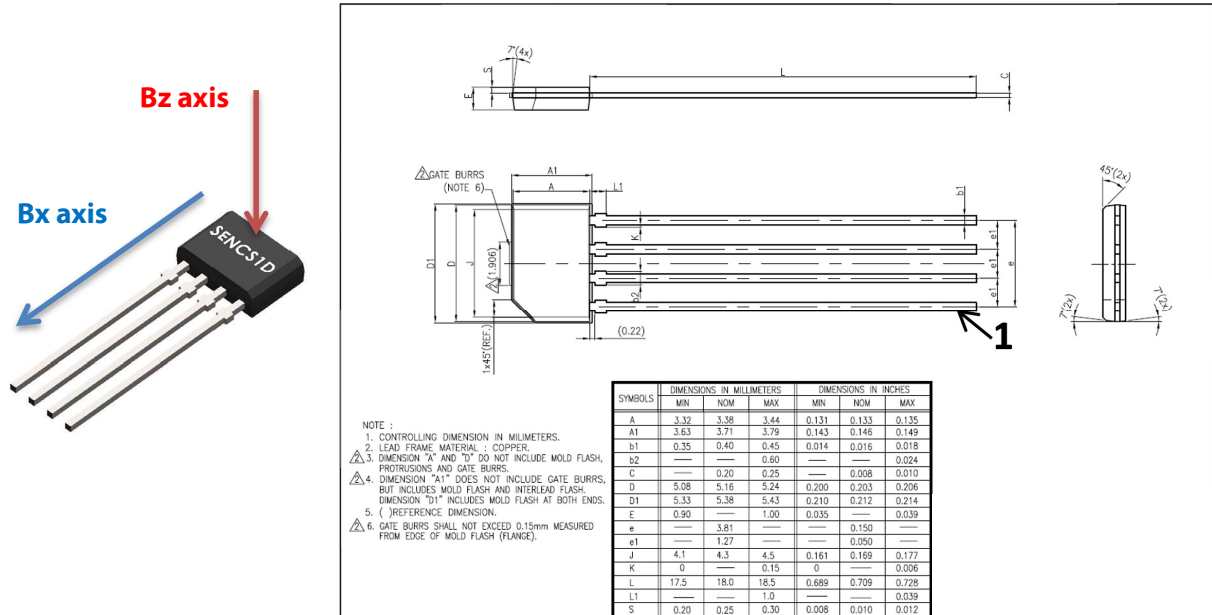

**Figure 4:** *Block diagram of SENC51De*
**Figure 4** shows the block diagram of the sensor chip with horizontal and vertical Hall element (hHe and vHe) as well as the corresponding horizontal and vertical coil. Note that the vertical coil is discrete and is therefore placed off-chip.